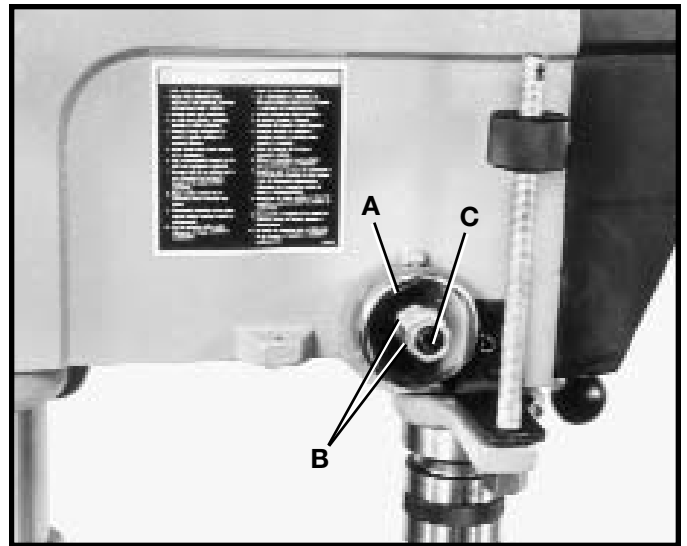

Fig. 27
For the purpose of automatically returning the spindle upward after a hole has been drilled, a spindle return spring is provided in the spring housing (A) Fig. 27. This spring has been properly adjusted at the factory and should not be disturbed unless absolutely necessary. To adjust the return spring, proceed as follows:
2. Loosen the two nuts (B) Fig. 27, approximately 1/4". **DO NOT REMOVE NUTS (B) FROM SHAFT.**